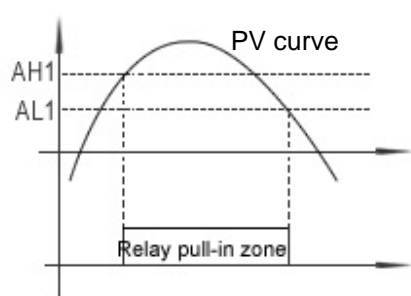

Figure 1
(2) Settings of SV and alarm parameters are same as above
(3) Setting guide of relay pull-in value and drop out value
- ① If $AH1=AL1$ ($AH2=AL2$), relay has no effect
- ② If $AH1>AL1$ ($AH2>AL2$), relay acts as shown in Fig. 1, usually used in high limit alarm